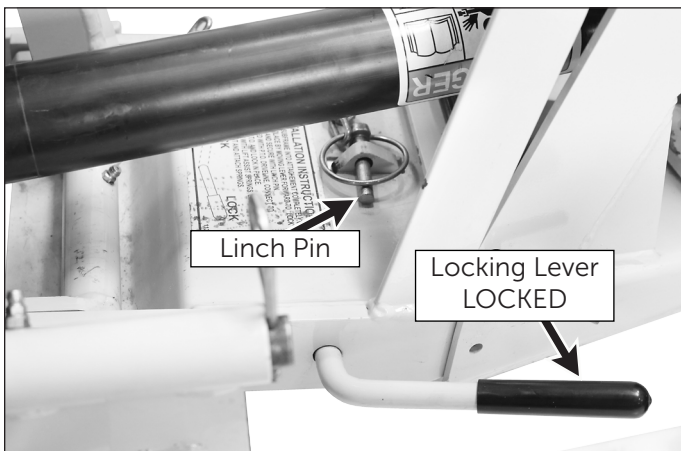

Figure 2.5: Hitch Lock Lever in "LOCKED" Position
- **Locking:** Rotate the hitch lock lever **fully forward** to the **LOCKED** position as in Figure 2.5, and secure the hitch latch with the linch pin.